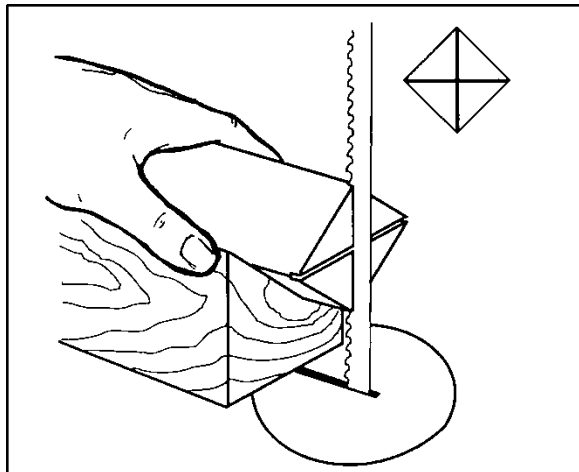

Figure 20
- Extremely hard woods may require kerfs cut into the ends of the stock (Figure 20) using a band saw, so the wood will accept the spur center and the live center.